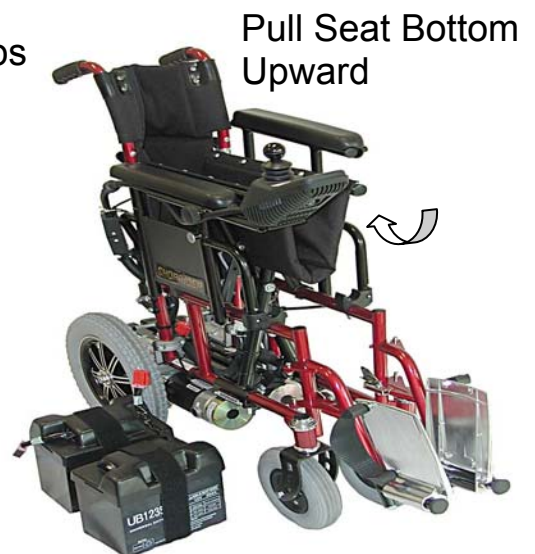

Figure 8
3. Fold up footplates and/or remove the entire leg rest assemblies (see Figures 8, 10 and 11).
7. Remove seat cushion, carefully place hands under the seat bottom and give a sharp pull upward. This will pull the entire frame together (Figure 8).